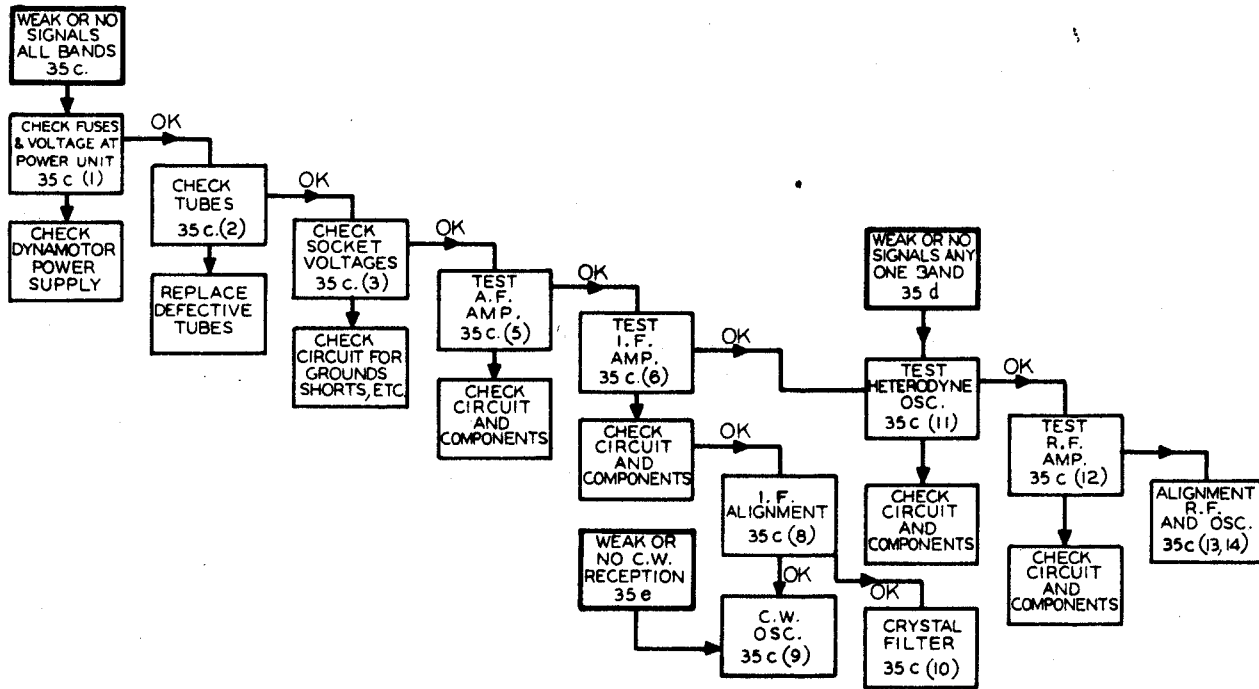
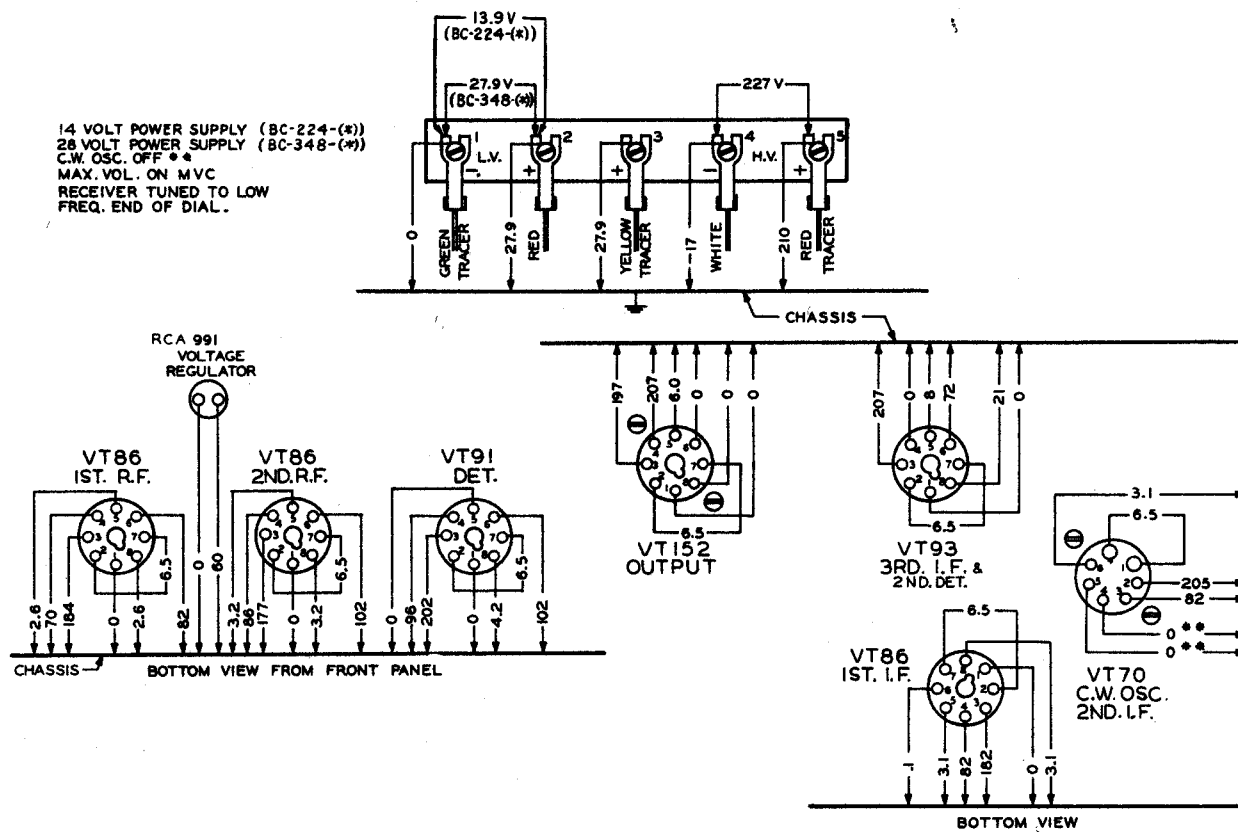

Figure 5-1. Trouble Location and Correction Diagram
Figure 5-2. Radio Receiver BC-348(*) or BC-224(*)—Dynamotor and Tube Socket Voltages
Figure 5-1 graphically outlines the procedure for trouble location, the numbers in each block referring to the paragraphs in this section.
(1) CHECK OF DYNAMOTOR VOLTAGES.—When all signals on all bands are weak or no signals are heard even when known to be present, the procedure follows that shown in Figure 5-1. The voltages checked at the dynamotor terminal board should closely approximate the values shown in Figure 5-2. Conditions for measurement are as follows: Input 28-volts for Radio Receiver BC-348-(*) or 14-volts for Radio Receiver BC-224-(*); "CRYSTAL" Switch Set to "OUT"; "AVC-OFF-MVC" Switch Set to "MVC"; "INCREASE VOL." control set to maximum; "C.W. OSC." Switch Set to "OFF." Load 4,000 ohms resistance (output transformer connected for HI output impedance). If these readings do not approximate the values shown, check the fuse as well as the dynamotor and filter circuits, wiring and components.
(2) TUBE CHECK.—If the voltages at the dynamotor terminal board approximate the values given, check all tubes for emission and characteristics or replace all tubes with those of known average characteristics.
(3) CHECK OF SOCKET VOLTAGES.—If tubes check satisfactorily, or if, after replacing with tubes known to be good, the sensitivity is still low, check all tube socket voltages. The average socket voltages are given in Figure 5-2.
(4) CHECK CIRCUIT WIRING AND COMPONENTS.—If the tube socket voltages do not approximate the values shown in figure 5-2, check the associated circuits and components for grounds, shorts, and similar defects.
(5) TEST OF AUDIO-FREQUENCY AMPLIFIER.—Having checked all socket voltages and found the values to be correct, test the audio frequency amplifier. This can be checked by capacitively-coupling a 400-cycle voltage of approximately 2 volts rms from the detector diode socket prong to ground using a capacitor of 500,000 micromicrofarads. As an alternative, a modulated 915 kc signal of 2 volts may be coupled to this point and ground. Proper functioning of the audio amplifier will be indicated by an output well over 10 milliwatts for the 2 volt audio input or approximately 1 milliwatt output for 915 kc input. Check circuits, wiring and components if this order of response is not obtained.
(6) TEST OF INTERMEDIATE-FREQUENCY AMPLIFIER.—Following a satisfactory test of the audio amplifier, check the intermediate frequency am-